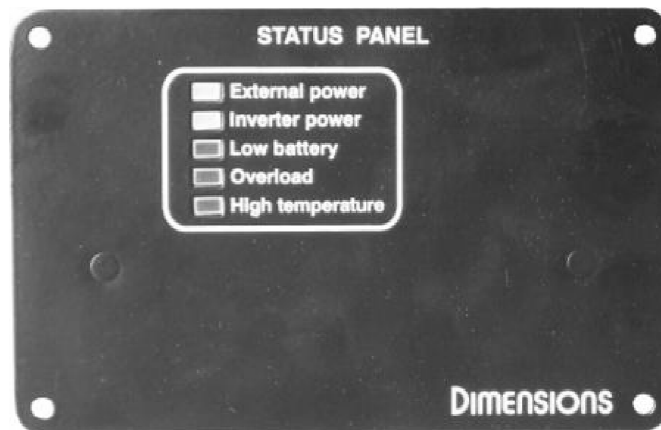

Figure 1 – Remote Display Status Panel, “R” Option
3.2.3 Remote Display Status Panel - “R” Option: If the “R” option is included, a Remote Status Display Panel is supplied as shown in Figure 1.